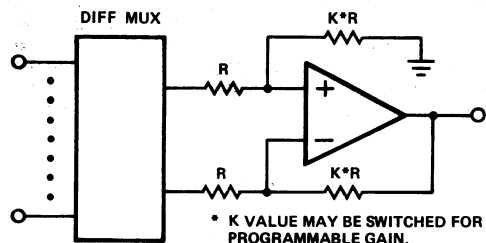

FIGURE 10. Subtractor or Pseudo-Differential PGA
3. Common Mode Rejection (CMR). When connected to the output of a differential multiplexer, the PGA's differential input rejects the common mode voltage accumulated by a signal transmission cable. Fig. 10 shows a subtractor or "pseudo-differential" PGA suitable for wideband signals with low common mode content. In this circuit, CMR is limited by precision of the "K" ratio and variations in the channel source impedance.